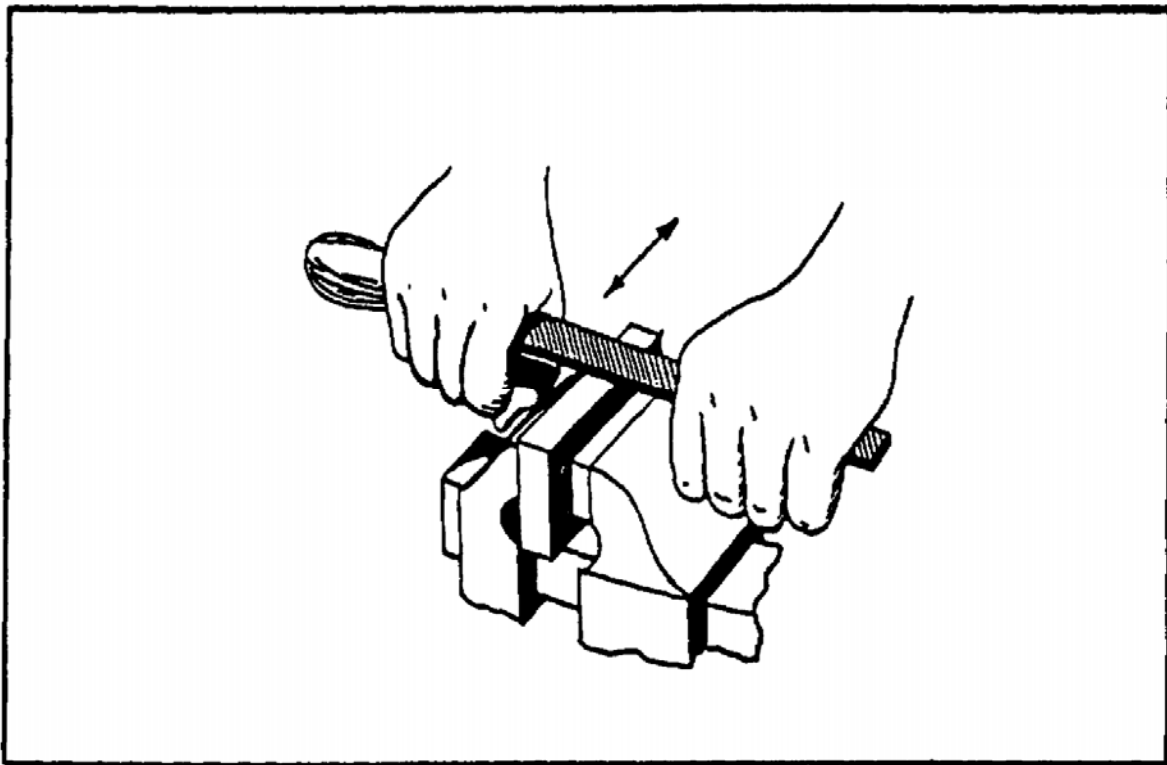

FIGURE 100. DRAW FILING.
(3) *Draw Filing.* Draw filing is used to produce a very smooth and true surface. To draw file, hold the file at right angles to the direction of the strokes, with your hands close together, as shown in figure 100, to prevent bending or breaking the file. Pressure should not be great and can remain the same on the back stroke, as well as on the draw stroke. The speed of filing is not important. For extra smooth surfaces, wrap a piece of emery cloth around the file and stroke in the same manner.